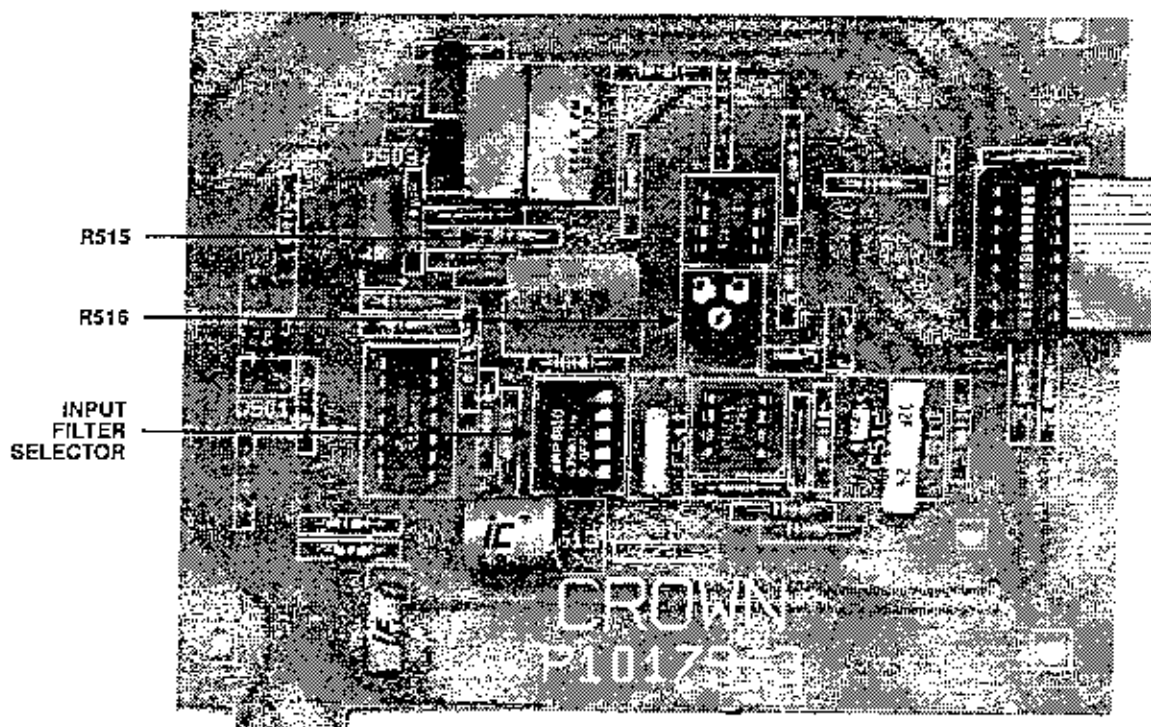

Fig. 4.2 Filter/Display Driver Circuit Board
3. Locate the potentiometer R516 near the center of the Filter/Display Driver circuit board and set it to the desired position (see Figure 4.2).